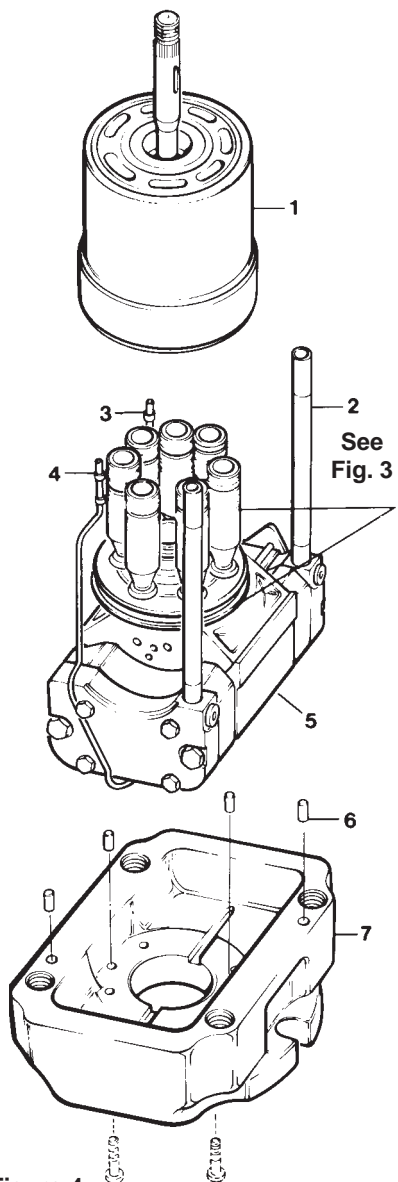

Figure 4
**See figure 4.** Insert tube line assemblies (3 and 4) in the holes provided in cradle.
**Note:** Tube assemblies (3 & 4, fig. 4) must be a snug fit into holes in cradle. Expand end of tubes with a pointed tool to assure fit.
**PARTS LIST FOR FIGURE 4**
Install gasket (3) over the two dowel pins (item 6 on Fig. 4) in the mounting flange.
Position the Housing Assembly (4) over the Barrel and Auxiliary Shaft Assembly and carefully guide the pressure tubes and tube lines (items 2, 3 and 4 on Fig. 4) through the Housing Assembly (4).
See Fig. 4
Slide the port block assembly and port plate over the end of the auxiliary shaft. Be certain that tubes 2, 3 and 4 shown on Fig. 4 are engaged and that the port plate (4) is still on the pins (3).